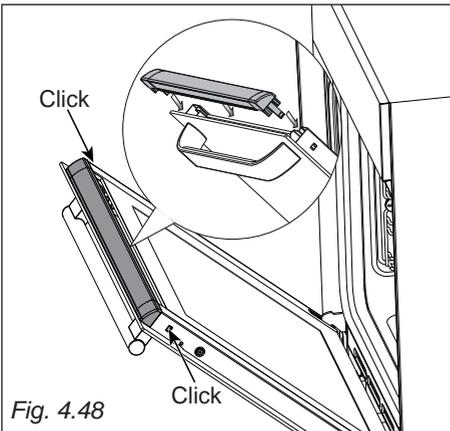

Fig. 4.48
- Gently push the glass retainer back into place. You should be able to hear the tabs on both sides click as they lock the glass retainer in (fig. 4.48). Please take special care to reassemble it correctly: if correctly fitted, the descending section shall be towards the inside of oven.